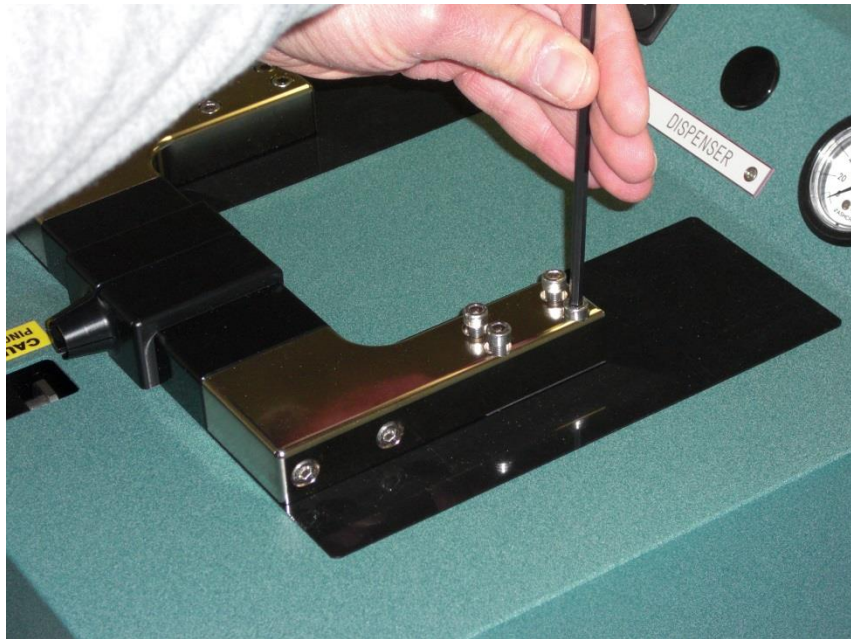

Figure 21: Removing the jaw mounting blocks
- Remove the eight (8) 5mm screws from the jaw mounting blocks. (Figure 21)